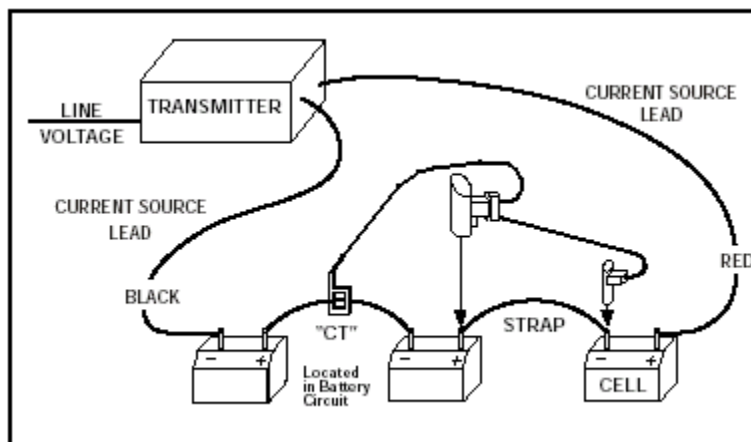

Figure 4
16. The second line of the display shows STRAP. Move the Receiver to the (+) post of the next cell. The second display line will show the strap impedance. Pull the trigger. The beeper will sound and readings will be stored. Refer to Figure 4.